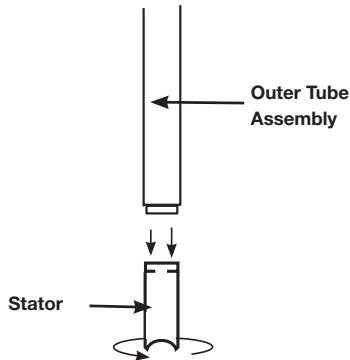

Figure 7
- Remove the stator from the pump tube body by turning clockwise (see Figure 7).
- Thread stator can onto pump body (see Figure 7).